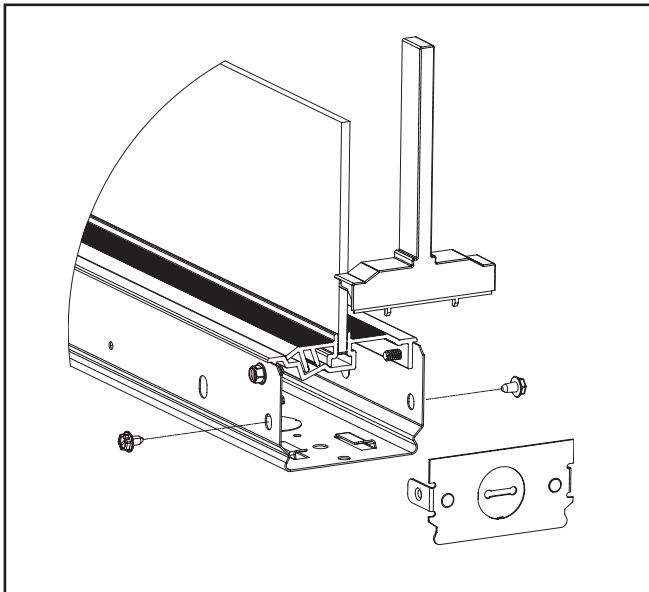

Figure 2.
1. Remove the metal end plate retaining screws and remove end plate (Figure 2).